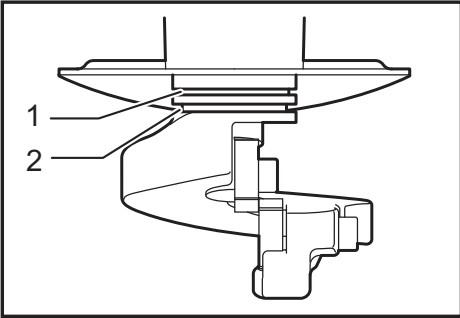

Fig.2
- Fig.2: 1. Gauge for stainless: 1.2 mm (3/64")